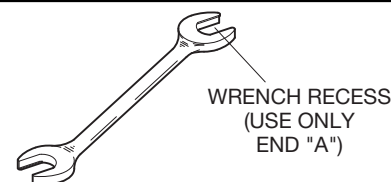

FIGURE 3
Step 3. Tighten the sprinkler into the sprinkler fitting using only the W-Type 6 Sprinkler Wrench (Figure 3). With reference to Figure 1, apply the W-Type 6 Sprinkler Wrench to the wrench flats.